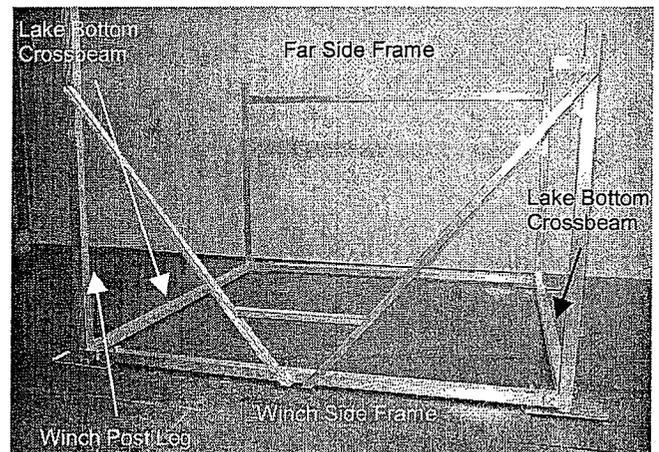

FIG. 4
1. Locate the winch side frame (See FIG.4). Locate the far side frame (See FIG.4).
2. Connect the two lake bottom cross beams to the winch side frame and far side frame using the four 7/16" flange nuts and bolts (See FIG.4 and 5).